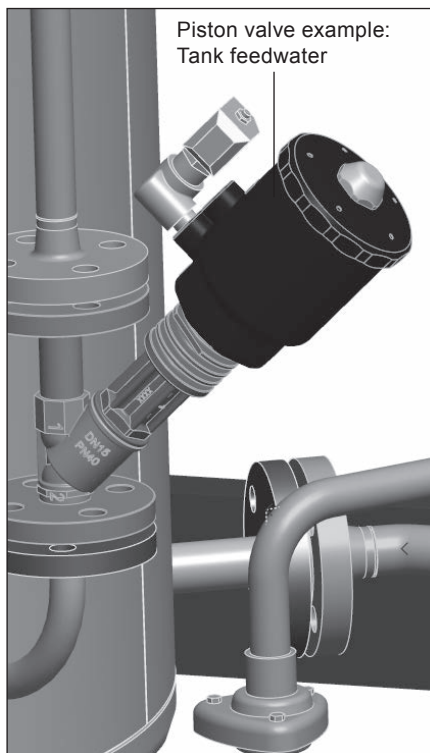

Fig. 19
5.4.9 Piston valves - Figure 19